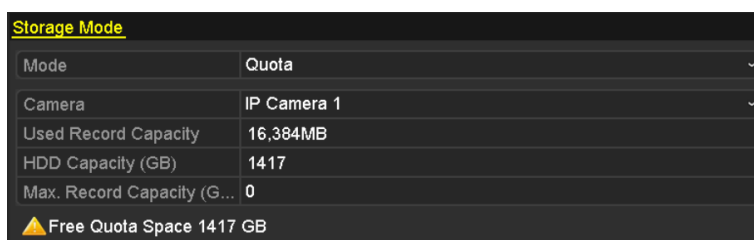

Figure 10-6 Storage Mode Settings Interface
Step 2 Set **Mode** to Quota, as shown in Figure 10-6.